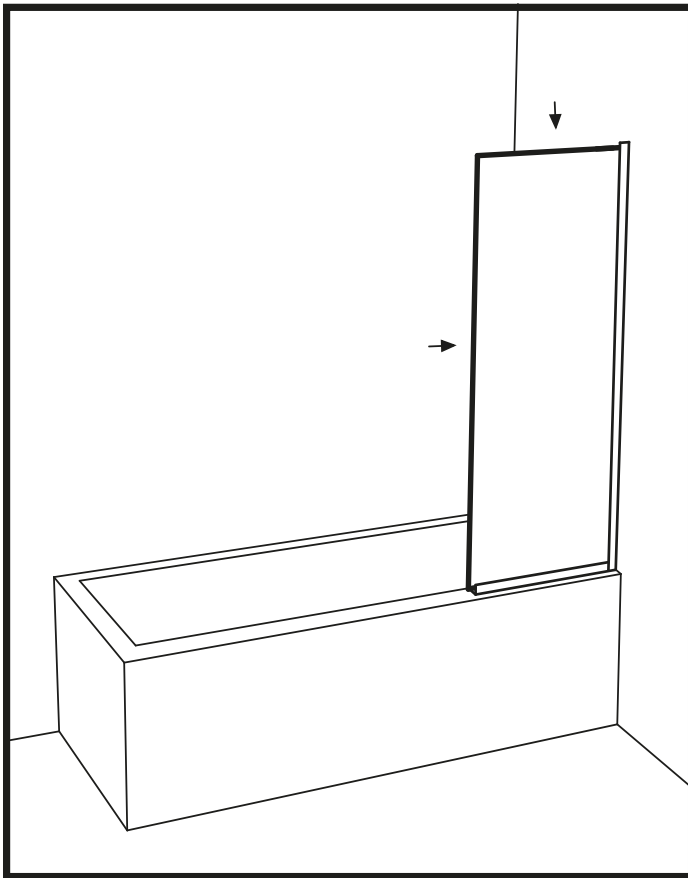

Figure 7
12. Place the bathtub glass between the U-channels and press it both towards the wall and down so that the silicone adheres to the glass. (Fig 7)